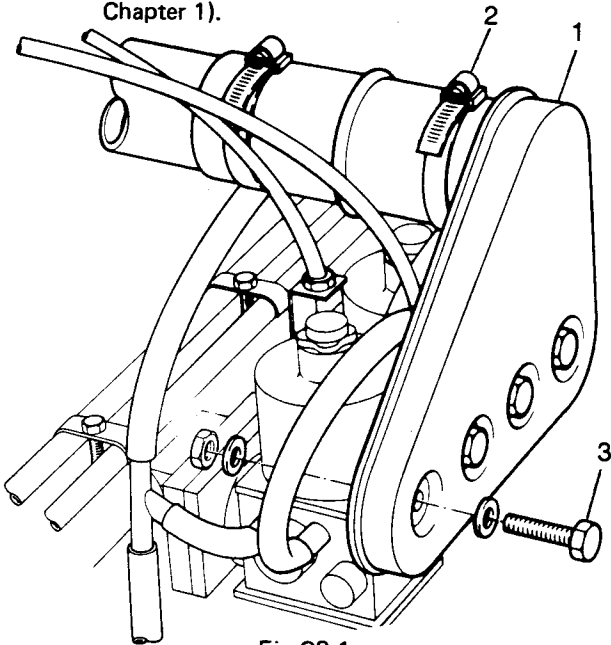

Fig C3.1
- (2) Refer to Fig C3.1. Remove the air intake box (1) by disconnecting the air inlet hose (2) and removing the four bolts (3) holding the box to the carburetters. (The bolts have loose nuts and washers behind the box).
- (3) Check the throttle for correct operation and free movement with no signs of sticking.